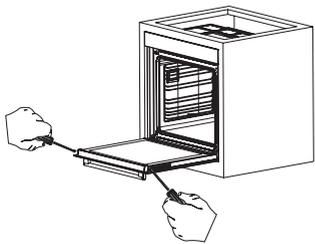
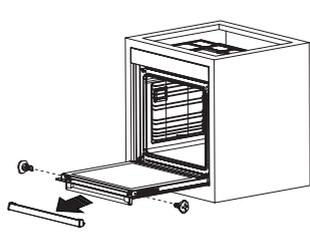
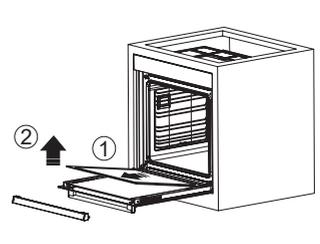

Figure 120
Figure 121
Figure 122
2. Remove the screws on the left and right side as shown in Figure 120. Remove the profile by pulling it towards you as shown in Figure 121. Glass is free after the profile is removed as shown in Fig. 122. Carefully pull the glass that has become free toward you. If necessary, the central glass can be removed in the same way. The outer glass is fixed to the oven door profile. You may easily clean the glass after it has been separated. Once the cleaning and maintenance is complete, you may replace the glasses and the profile by performing the removal procedure in reverse. Make sure that the glass is inserted in the correct direction and that the profile fits properly.